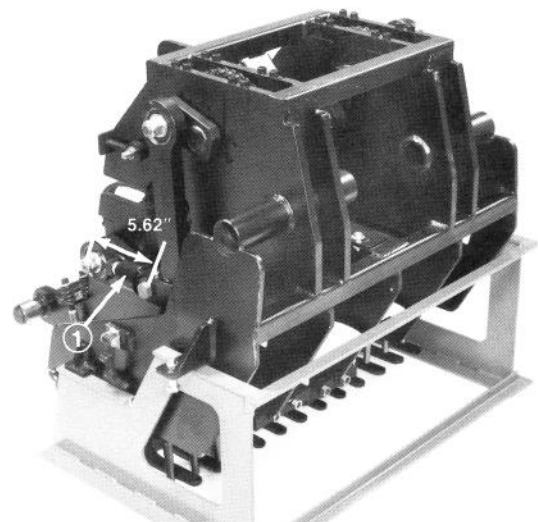

Figure 49
11. Pull traction unit straight away from coring head (Fig. 49).
If coring head damper assemblies are ever removed for servicing, make sure they are installed so distance between center of tine arm shoulder bolt and center of crank shaft is 5.56-5.62 inches (Fig. 49).